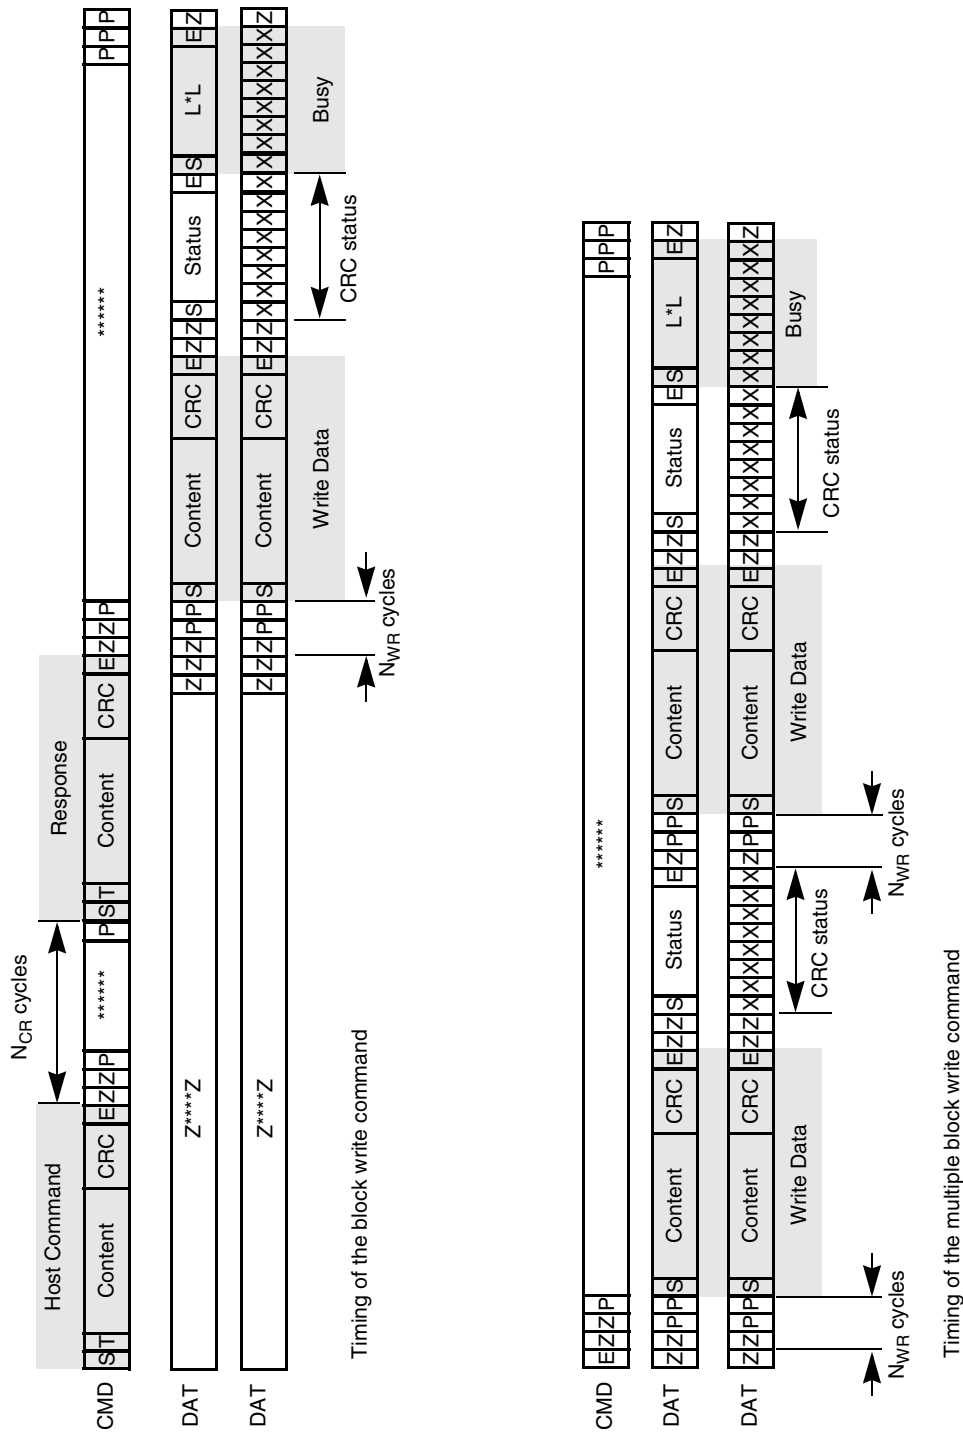

Figure 51. Timing Diagrams at Data Write
Figure 51 shows the basic write operation timing. As with the read operation, after the card response, the data transfer starts after N_{WR} cycles. The data is suffixed with CRC check bits to allow the card to check for transmission errors. The card sends back the CRC check result as a CC status token on the data line. If there was a transmission error, the card sends a negative CRC status (101); otherwise, a positive CRC status (010) is returned. The card expects a continuous flow of data blocks if it is configured to multiple block mode, with the flow terminated by a stop transmission command.